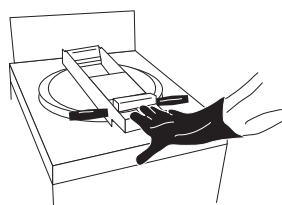

FIGURE 11
- B. Do not touch handlebar to open lid until pressing down on lid lock causes the lid to lower (figure 11)